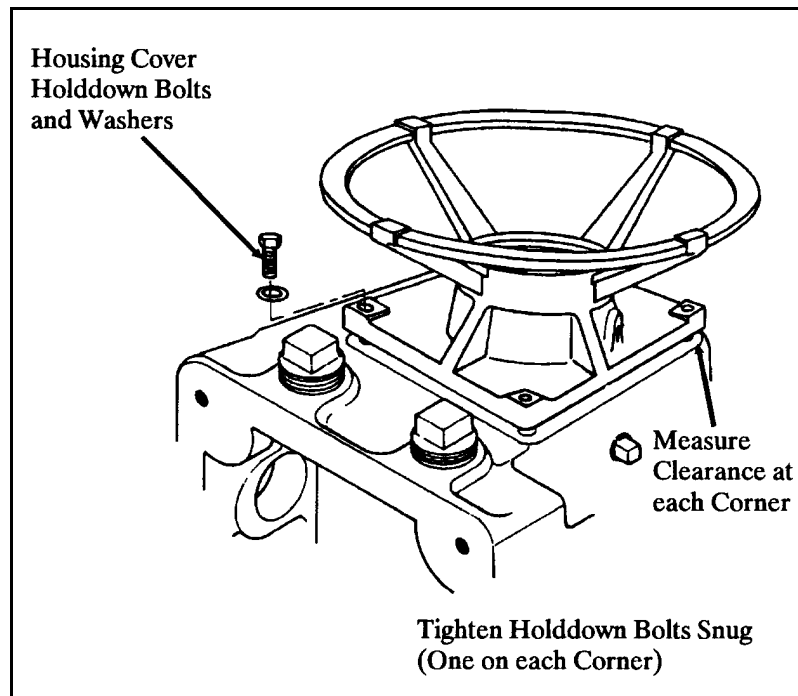

Figure 4-43 Determination of Handwheel Gasket Thickness
23. Housing Cover Gasket Thickness Determination Refer to Figure 4-43